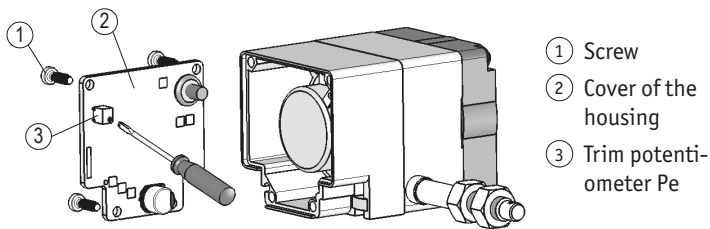

Fig. 8: Setting the trimming potentiometer MWU
Adjusting the trim potentiometer (Fig. 8)
By means of the trim potentiometer Pe ③ (see Fig. 8, this value can be adjusted to the actual final position of the application.
1. Unscrew the screws ① and open the cover of the housing ②.
2. Adjust the trim potentiometer Pe ③.